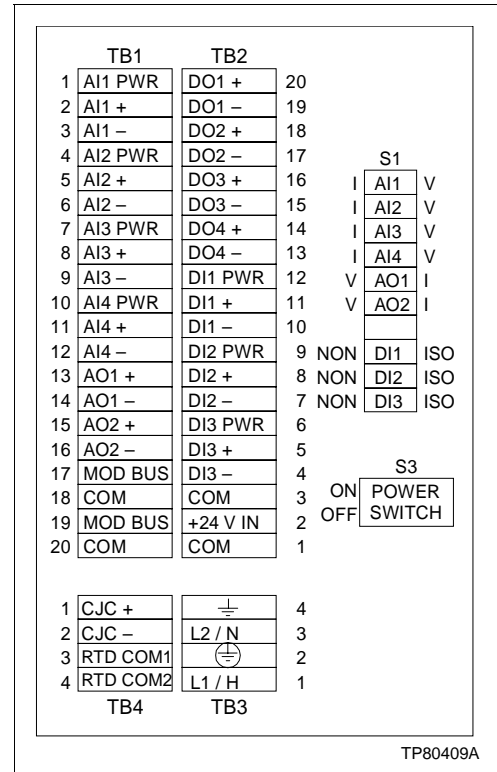
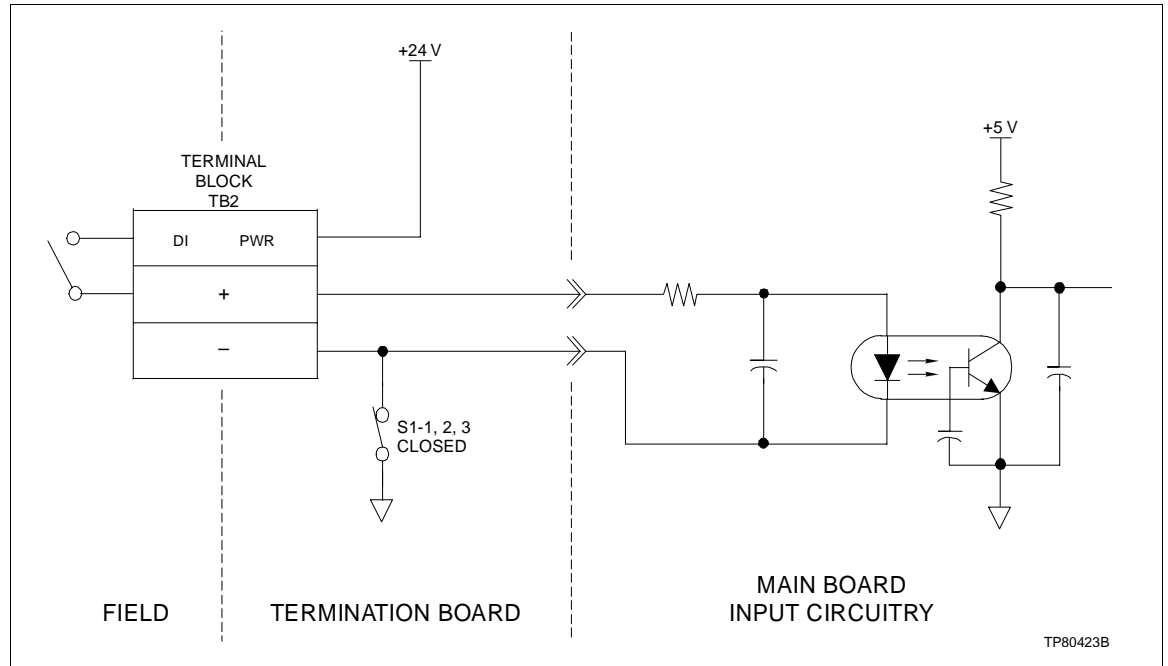

Figure 2-5. External Wiring Label
Figure 2-13. Digital Inputs in Nonisolated Mode
- Connect the analog inputs and outputs using the external wiring label (Fig. 2-5) on the inside of the rear cover as a guideline for terminal block assignments.
Connect digital inputs and outputs using the external wiring label (Fig. 2-5) on the inside of the rear cover as a guideline for terminal block assignments. Refer to Figures 2-13 through 2-15 for typical digital input/output connections examples.